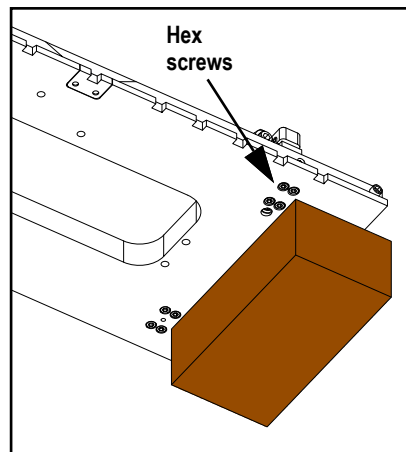

Figure 8-9. Thread Hex Screws
3. Thread hex screws securely into replacement flexures without fully tightening (see Figure 8-9).